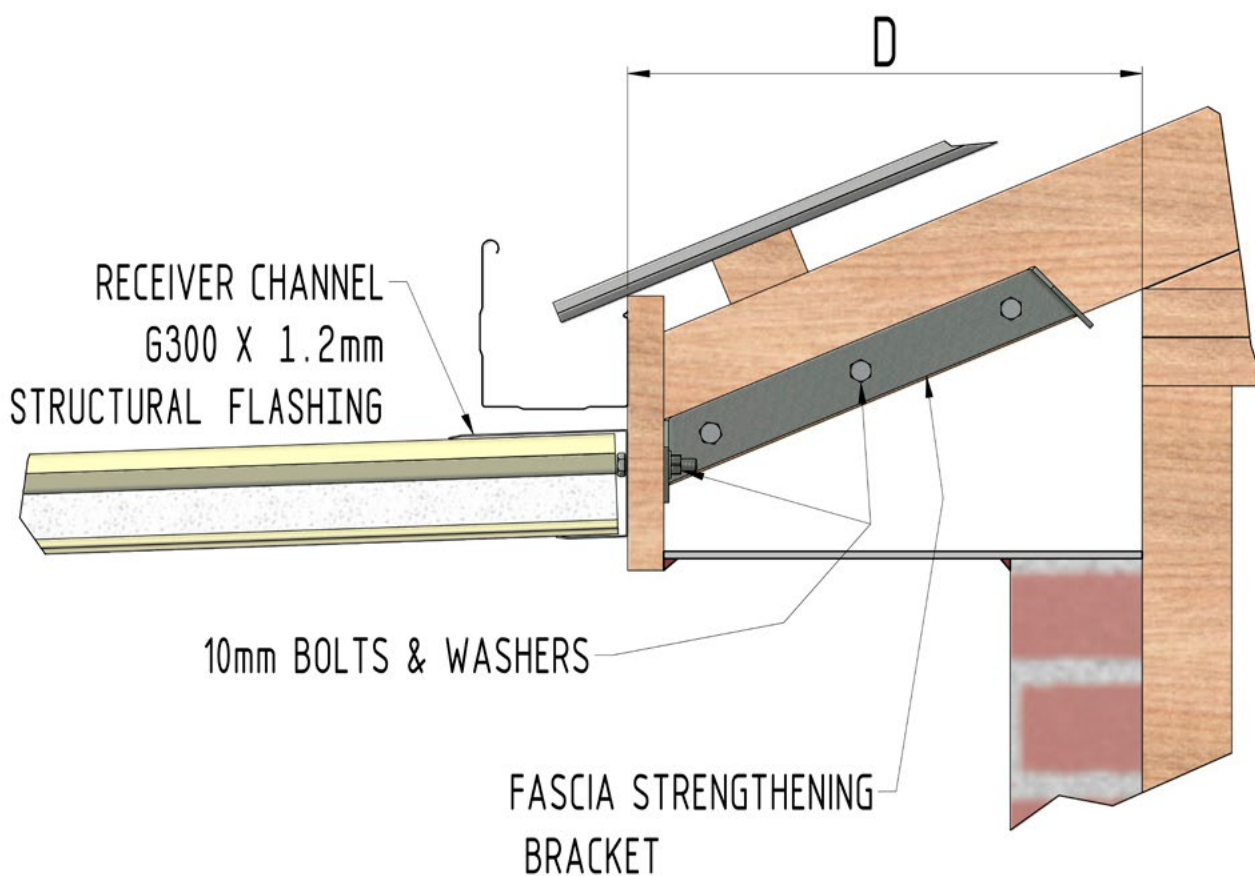

Figure A28
**Roofing to Timber Fascia (see Figure A28)**